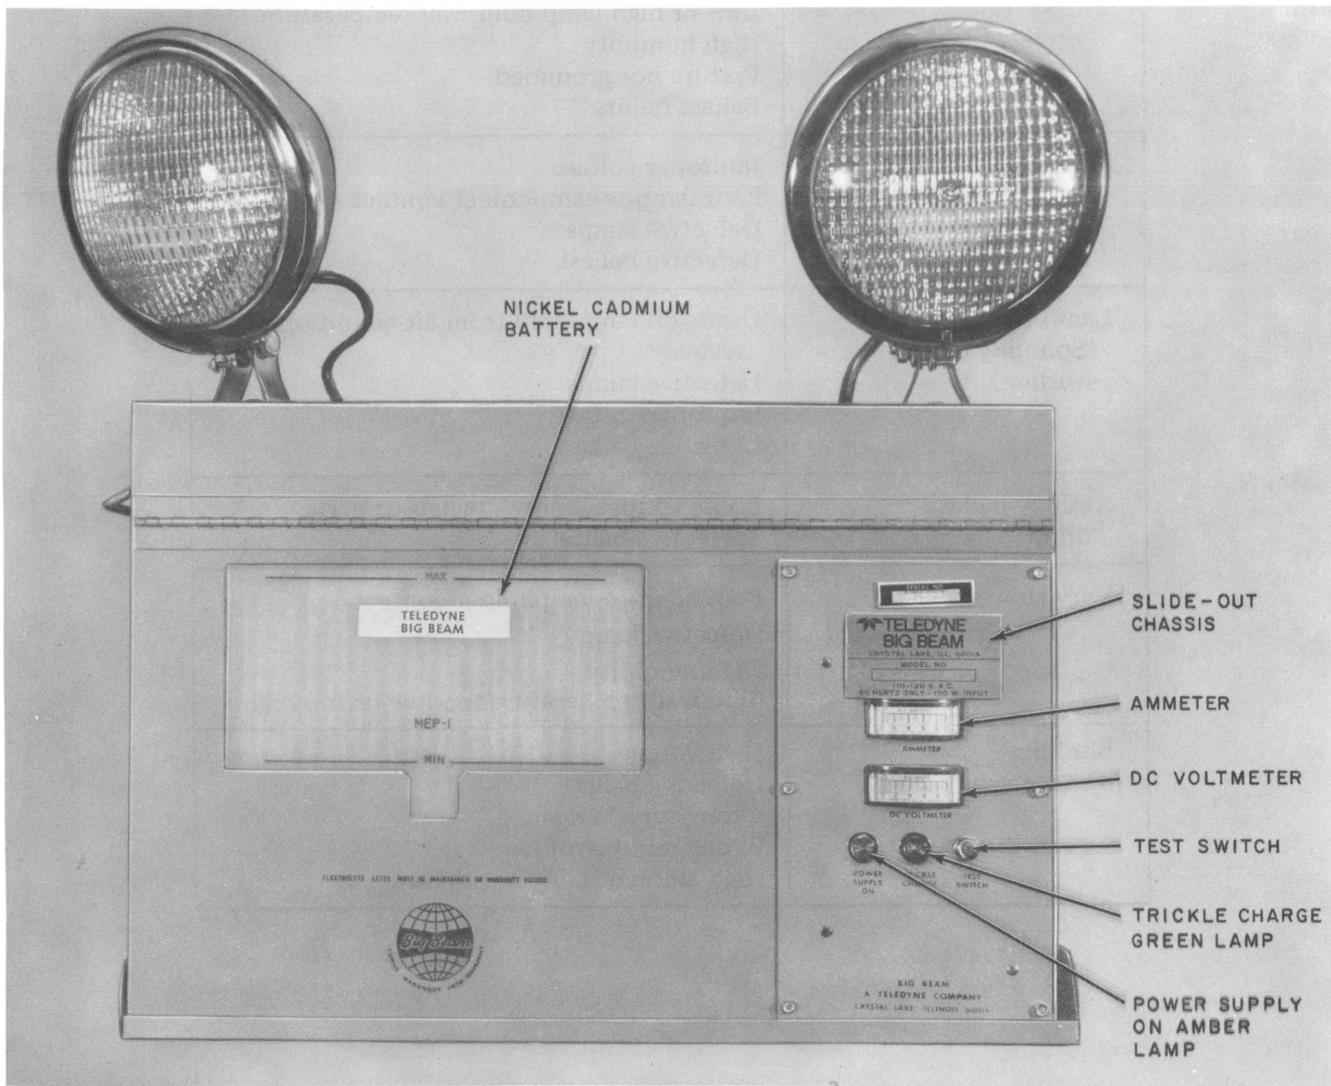

Fig. 28—Teledyne Big Beam Lighting Unit (Model 2A6N-20P2)
7.01 An emergency lighting system in the No. 2A or 2C ESS with the exception of the power service module is provided by Teledyne Big Beam* lighting units, Fig. 28. These units are manufactured by Teledyne Big Beam Company of Crystal Lake, Illinois, and are referred to as model 2A6N20-P2.
(1) Perform the operational test in 7.04.
(2) The electrolyte level in the nickel cadmium battery must be maintained at all times. Add distilled water to bring the level up to the level line marked on the battery (Fig. 28).